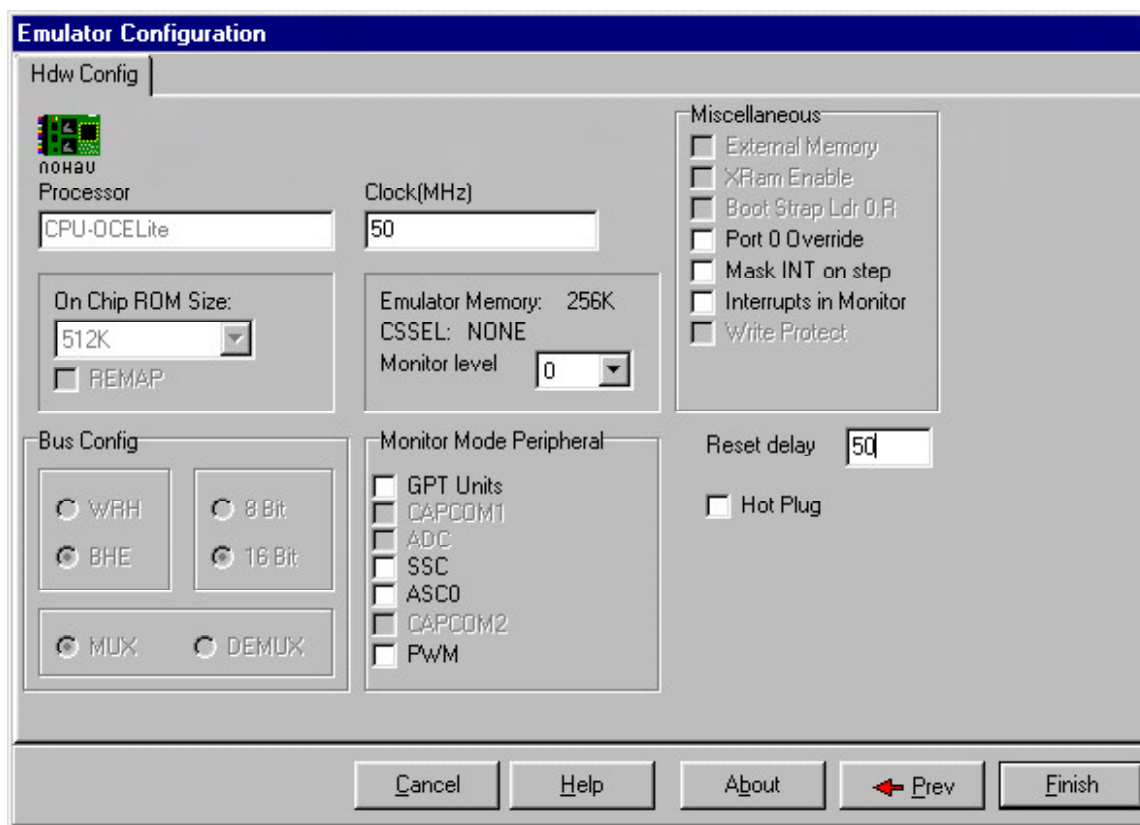

Figure 6. Emulator Hdw Con fig tab
5. The Emulator Configuration Hdw Config tab will appear as in figure 6. Proceed by clicking Finish.